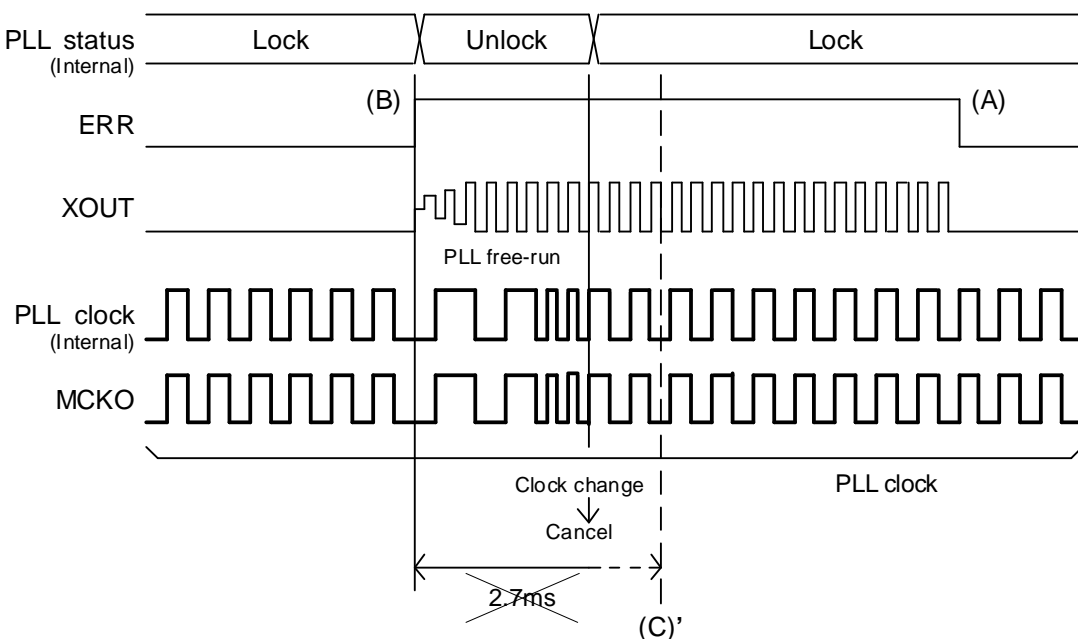

Figure 3-2 Clock Switch Timing Chart 2
- When PLL changes once again within 2.7ms from the point of change in PLL state, the clock does not switch. When PLL is locked again, the clock switch operation is canceled, and PLL clock output continues. (Fig. 3-2 (C'))